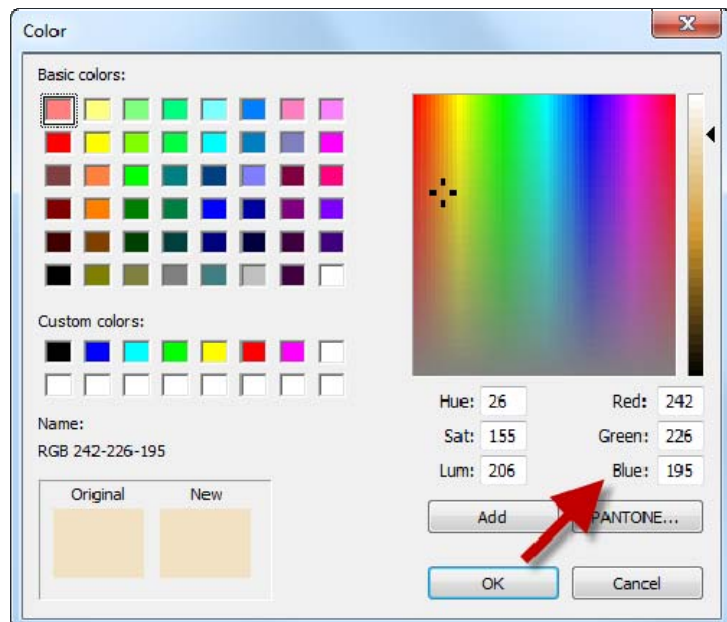

FIGURE 4-3.15 Materials dialog; Adjust appearance color
42. Change the RGB numbers as follows (Figure 4-3.15):
65. Set the RGB color to R=231, G=220, B=202 (similar to Figure 4-3.15)